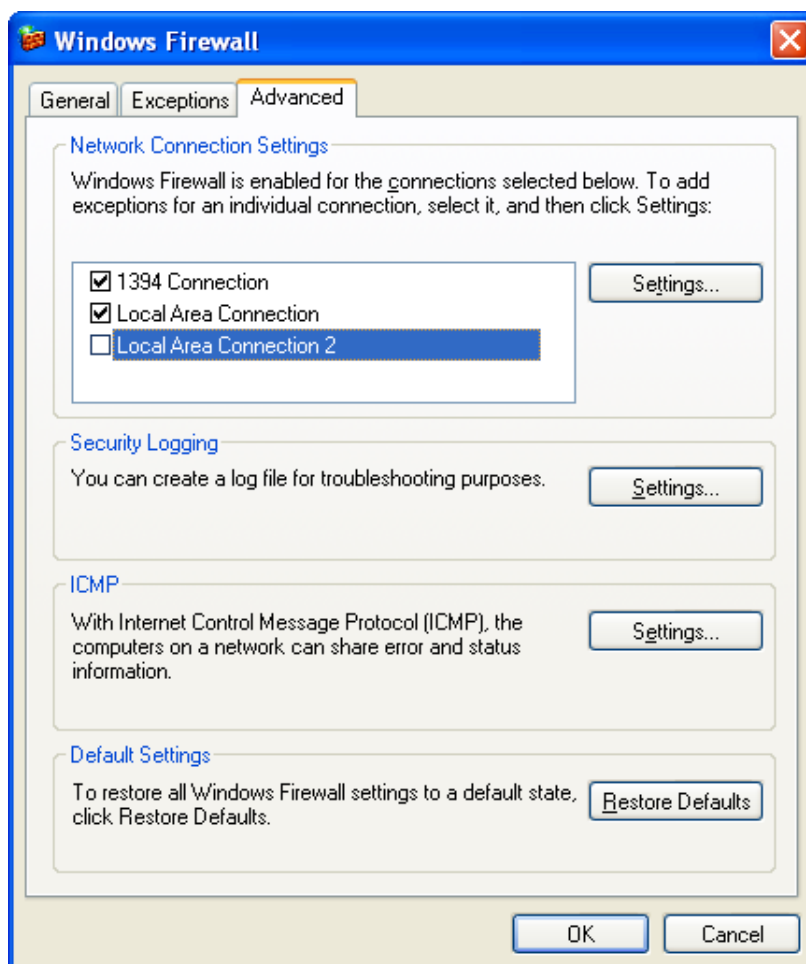

Figure 2.7: Windows Firewall Configuration
4. No firewall should be active on the network adapter where the Photonfocus GigE camera is connected. If the Windows Firewall is used then it can be switched off like this: Open the Windows Firewall configuration (Start -> Control Panel -> Network and Internet Connections -> Windows Firewall) and click on the Advanced tab. Uncheck the network where your camera is connected in the Network Connection Settings (see Fig. 2.7).